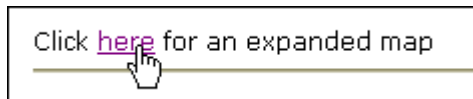
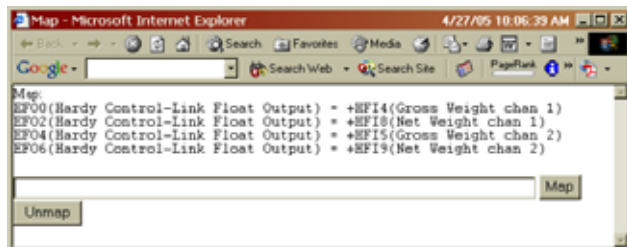

FIG. 289: SELECTING AN EXPANDED MAP
FIG. 290: EXPANDED MAP DIALOG BOX
Step 40. To see what has been mapped click on the word here in the statement “Click here for an expanded map”. (See Fig. 289) The Expanded Map dialog box appears. (See Fig. 290)